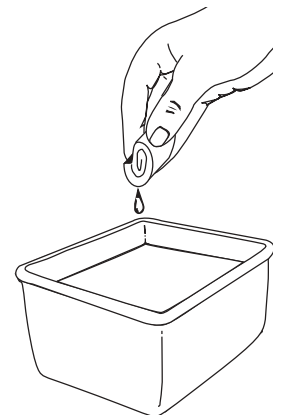

FIGURE 35
3. Wash the filter in detergent and water, Figure 35. Rinse the filter thoroughly. Squeeze out excess water. Allow it to dry completely.